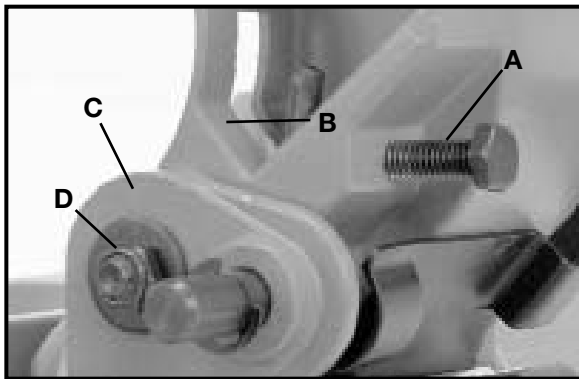

Fig. 32
The tension of the cuttinghead return spring has been adjusted at the factory in order that the cuttinghead returns to the up position after a cut has been made. To re-adjust the spring tension, turn adjusting screw (A) Fig. 32, clockwise to increase or counterclockwise to decrease the spring tension.
After a long period of time it may become necessary to adjust the sliding fit between the cuttinghead arm (B) Fig. 32, and the trunnion (C) by tightening nut (D). Correct adjustment is a good snug sliding fit between these two parts. This adjustment should not be so tight that it restricts the sliding movement of the cuttinghead arm (B) or so loose that it affects the accuracy of the saw cut.